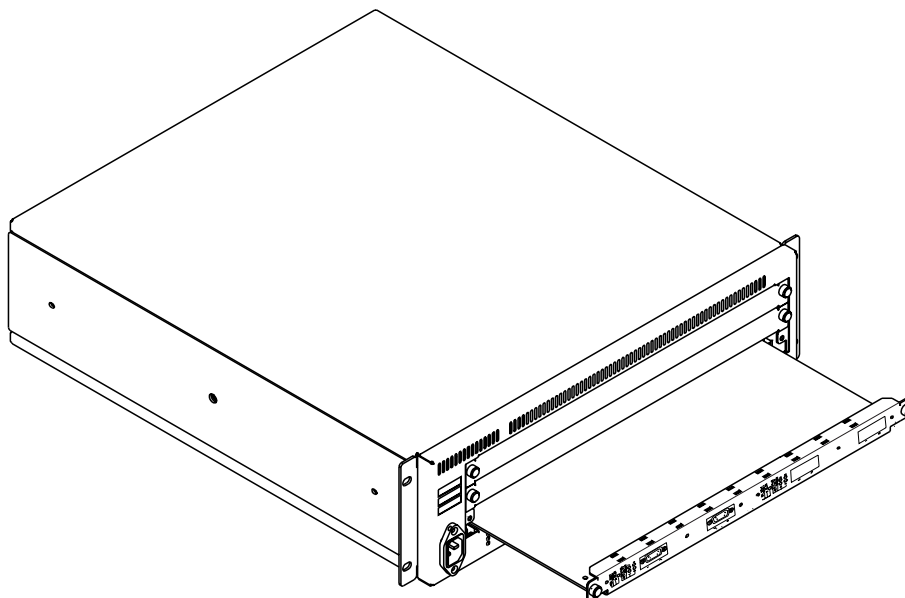
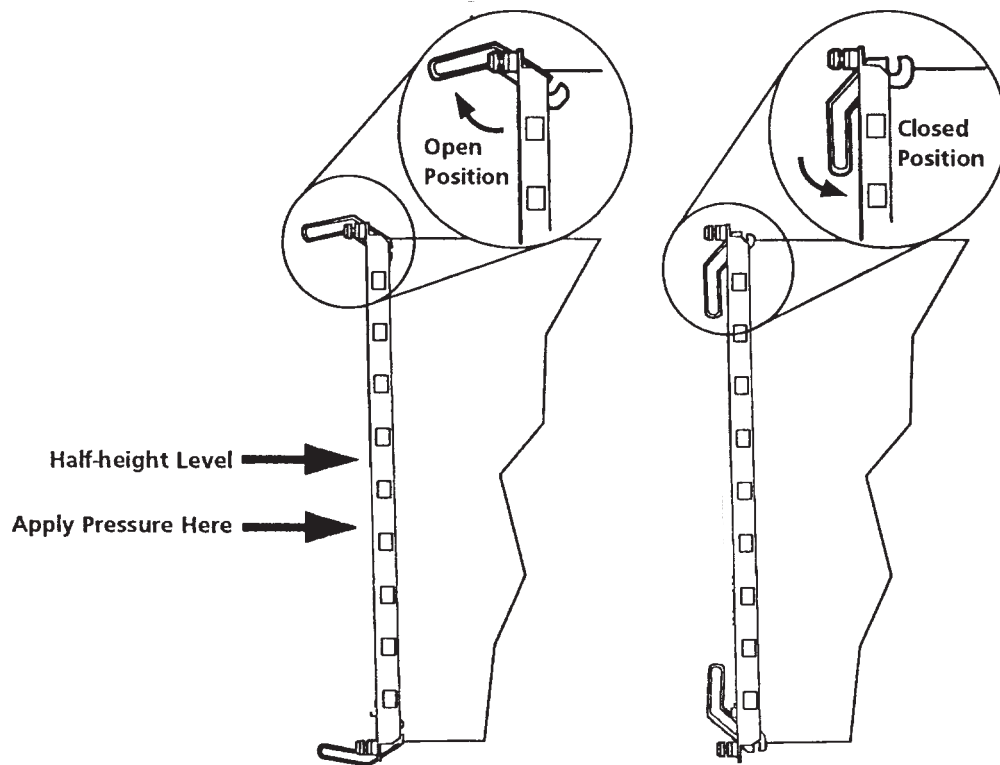

Figure 21. Inserting the Module in an 8285 Expansion Unit
Figure 22. 8285 Module Ejectors
3. Insert the A8-WAN module into the slot in the expansion unit as shown in Figure 21, matching the left and right board guides as you slide the module cleanly into place (by pressing evenly on the top and bottom of the faceplate). Do not attempt to push the module all the way in until you have verified that the left and right module ejectors are OPEN (see Figure 22 on page 38.)